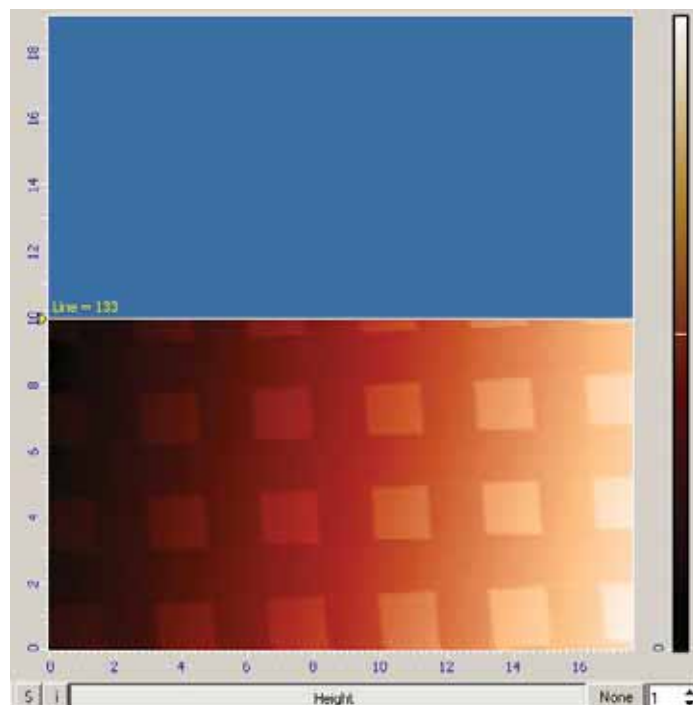
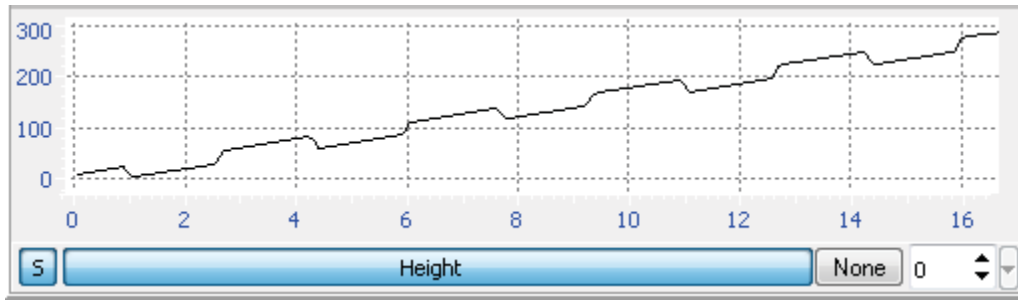
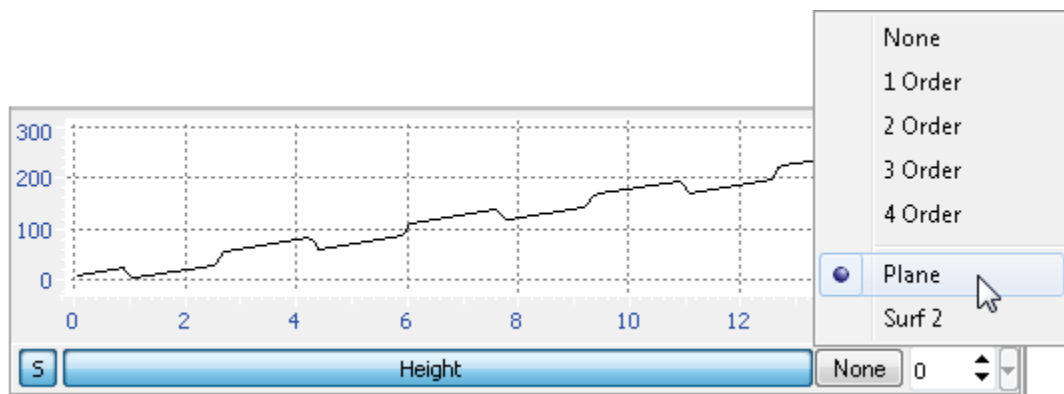

Fig. 8-21. Surface topography image
Fig. 8-22. **Height** signal
Fig. 8-24
- Line-by-line scanning of the sample surface starts and the corresponding image of the scan area appears in the 2D Viewer of the scan data (see Fig. 8-21);
- If the **S** button in the left bottom of the 2D Viewer of the scan data is pressed, the 1D Viewer will display the detection signal in real time (see Fig. 8-22);
Data in the example above (see Fig. 8-21, Fig. 8-22) reveal that the sample is tilted to some degree along the X direction.
Contribution of the tilt to the detected landscape can be eliminated immediately in the scan process with proper selection of the **Subtract** control at the right bottom of the **ScanForm** window. By default, this button is in the **None** state (see Fig. 8-22).
To activate run-time subtraction, click this button and select the **Plane** option in the corresponding list (see Fig. 8-24). This entails subtraction of the plane tilt, and the original image, illustrated in Fig. 8-21, is transformed into the image shown in Fig. 8-25.
With the correction defined, the 1D Viewer of the scan data will display the detection signal corrected for the tilt contribution. The resulting signal is shown in Fig. 8-26 (compare with the signal in Fig. 8-22).